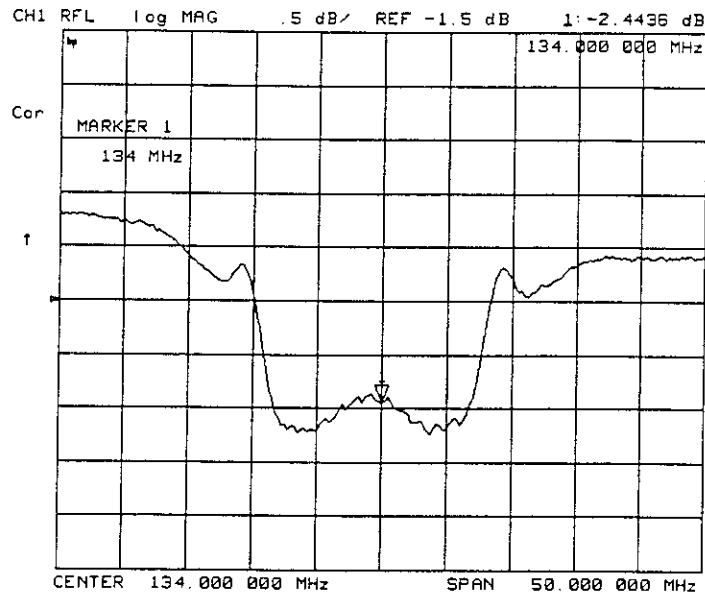

Figure 2-8. Example Return Loss Measurement Trace
4. Press **MARKER** to read the return loss from the analyzer display as shown in Figure 2-8.